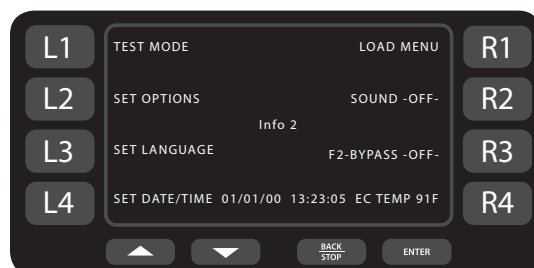
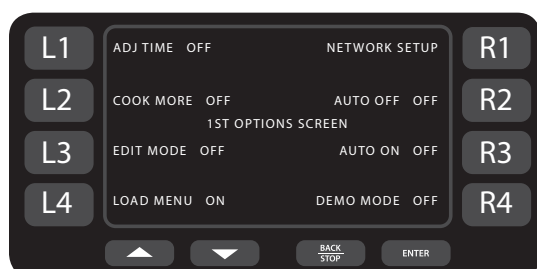

Figure 13: Info Mode Screen 2
Figure 14: 1st Options Screen
From screen 2 of the Info Mode (Figure 13):
From screen 2 of the Info Mode (Figure 13), press the L3 soft key to scroll through available languages. Each time L3 is pressed, a different language is selected in the following order: English (default), Spanish, French, German, Portuguese, Italian, Russian, Greek, Polish.
The F2 alarm indicates the oven temperature is too low - see page 31 for details. From screen 2 of the Info Mode (Figure 13, page 11), press the R3 soft key to set the F2 Bypass.
From screen 2 of the Info Mode (Figure 13, page 11), press the L2 soft key to access the Set Options screens (Figures 14 and 15). When prompted, enter the password 9 4 2 8 and press the Enter key.
From screen 2 of the Info Mode (Figure 13, page 11), press the L4 soft key to access the Set Date/Time screen (Figure 16). The real time, “auto-on” time, and “auto-off” time can be set.
An accurate real time is critical for the usability of auto-on and auto-off. When these features are enabled from the 1st Options Screen (Figure 14, page 12), the oven will automatically turn on or off at the time specified.
**IMPORTANT:** For auto-on and auto-off to be active, they must be enabled from the 1st Options Screen (Figure 14, page 12).
From screen 2 of the Info Mode (Figure 13, page 11), press the L1 soft key to access Test Mode (Figure 16, page 13). When prompted, enter the password 9 4 2 8 and press the Enter key. From Test Mode, the oven’s components can be tested independently, or a comprehensive/selective self-test can be run. Unless otherwise specified, idle airflow is set to 10% and the stirrer motor is turned on.